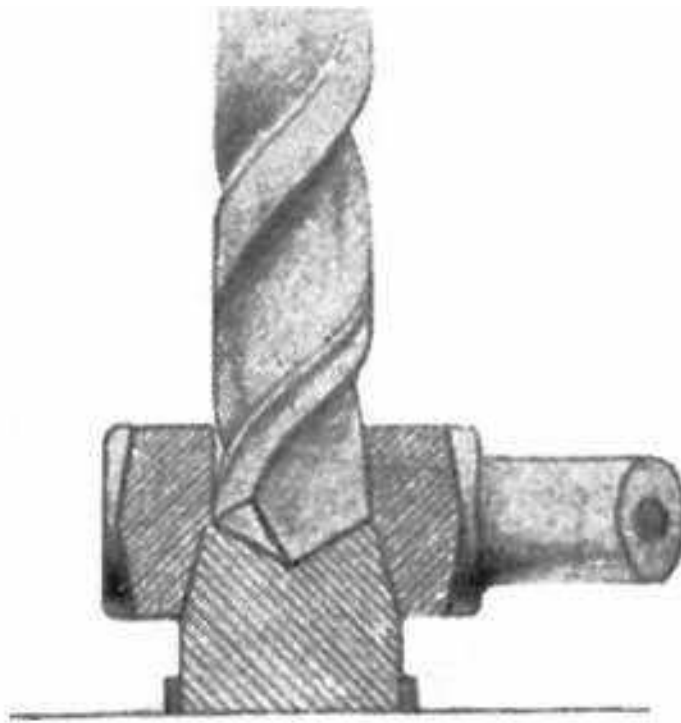

Fig. 192. Connector
- (b) Do not drill too deep. Make each hole just deep enough so that the connector will come off easily. Fig. 192 shows a cross section of a post and connector drilled to the proper depth. Notice that you need not drill down the whole depth of the connector, because the bottom part is not burned to the post.